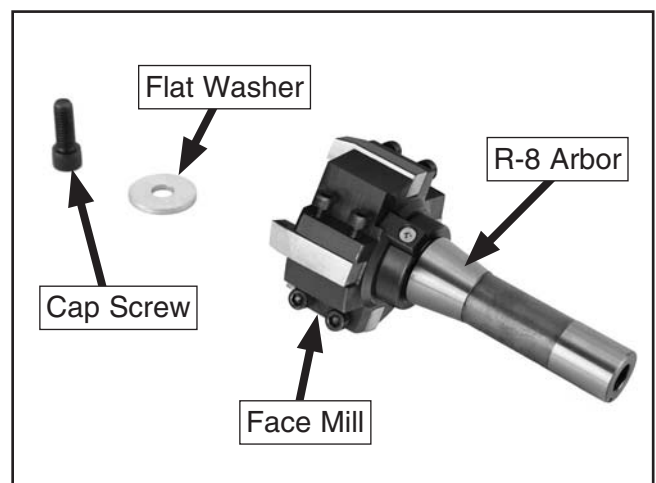

Figure 15. Face mill.
2. Fit the face mill onto the stub end of the arbor so the keys on the arbor and the keyways on the face mill come together (**Figure 15**).